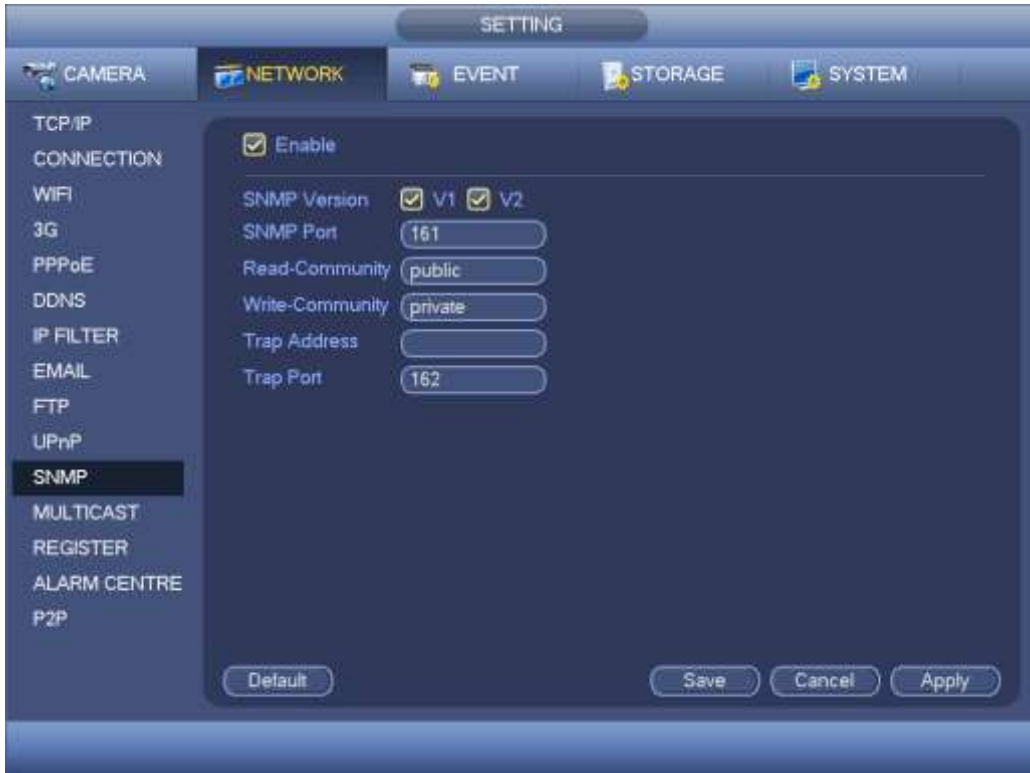

Figure 4-103
You can set in the following interface. See Figure 4-103.
- In Figure 4-103, check the box to enable the SNMP function. Input the IP address of the PC than is running the software in the Trap address. You can use default setup for the rest items.